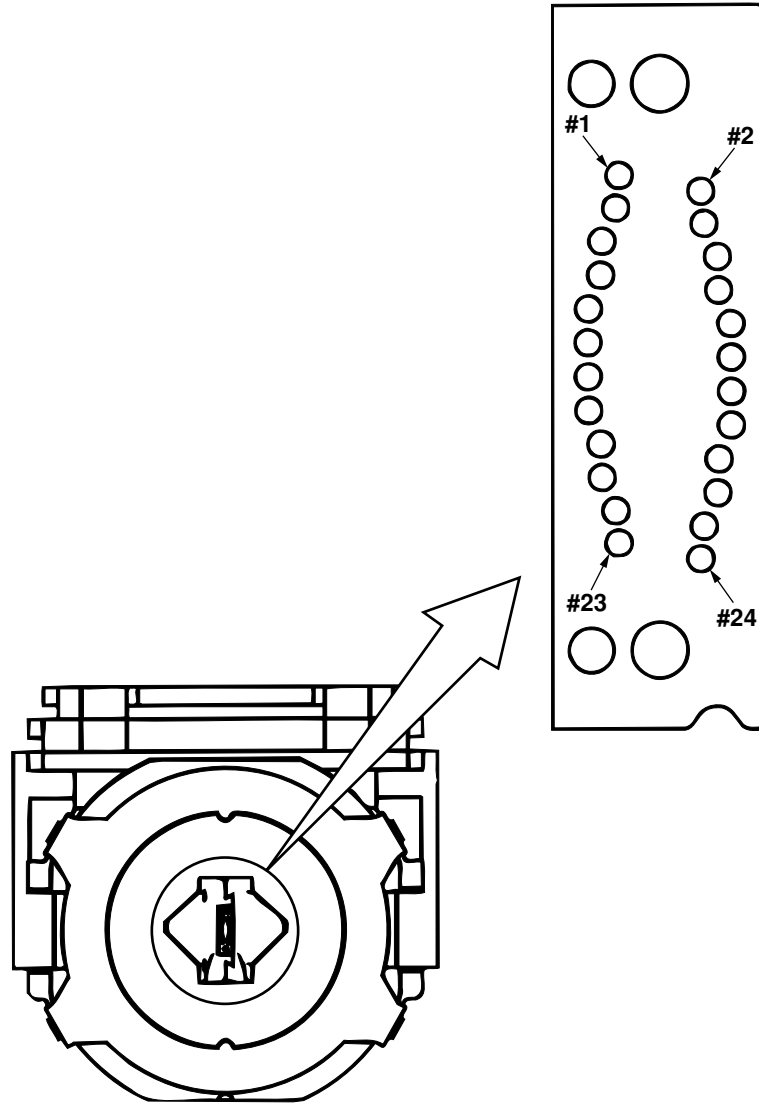

Figure 12-2. Head Pin Arrangement
12.3.1 Print Head Mechanism and Operation (See Figures 12-2 & 12-3.)